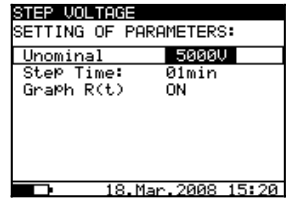

Fig. 23 Set-up menu in Step Voltage Test
- Press the SELECT key, (the Set-up menu (*Fig. 23*) will appear on the display);